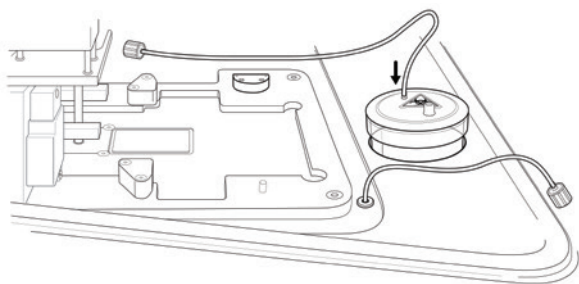

Fig. 14 . Attach waste jar tubing.
- Attach the waste jar tubing to the waste jar (Figure 14).